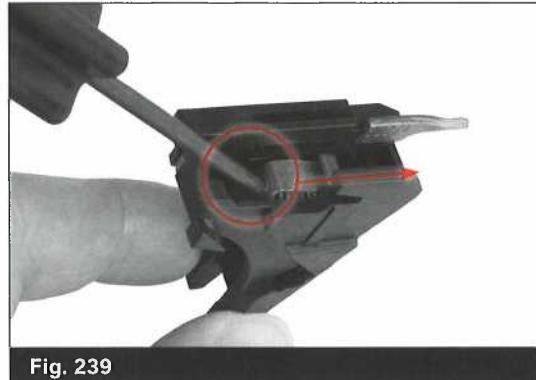

Fig. 239
- Using the pin punch, press the trigger spring bearing down and slide it to the front until you can see the tip of the trigger spring rod protruding from the trigger mechanism housing. (Fig. 239)